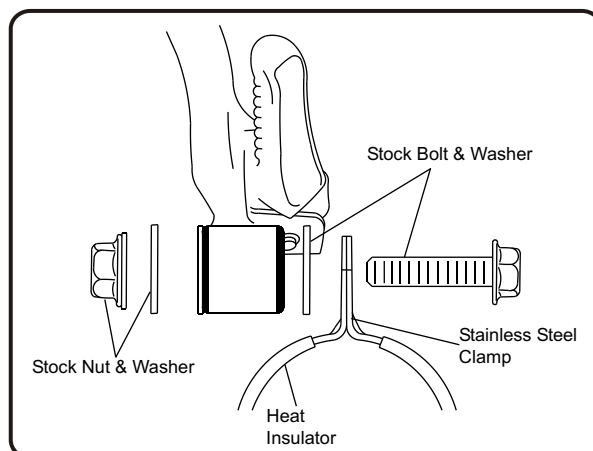

Fig. 3
- 6 Apply heat insulator to inside of muffler clamp then slide clamp onto muffler. (note direction of clamp in Fig. 3)
- 7 Mount muffler clamp to the outside of stock muffler bracket using stock bolt, washer, and nut. (See Fig. 3)